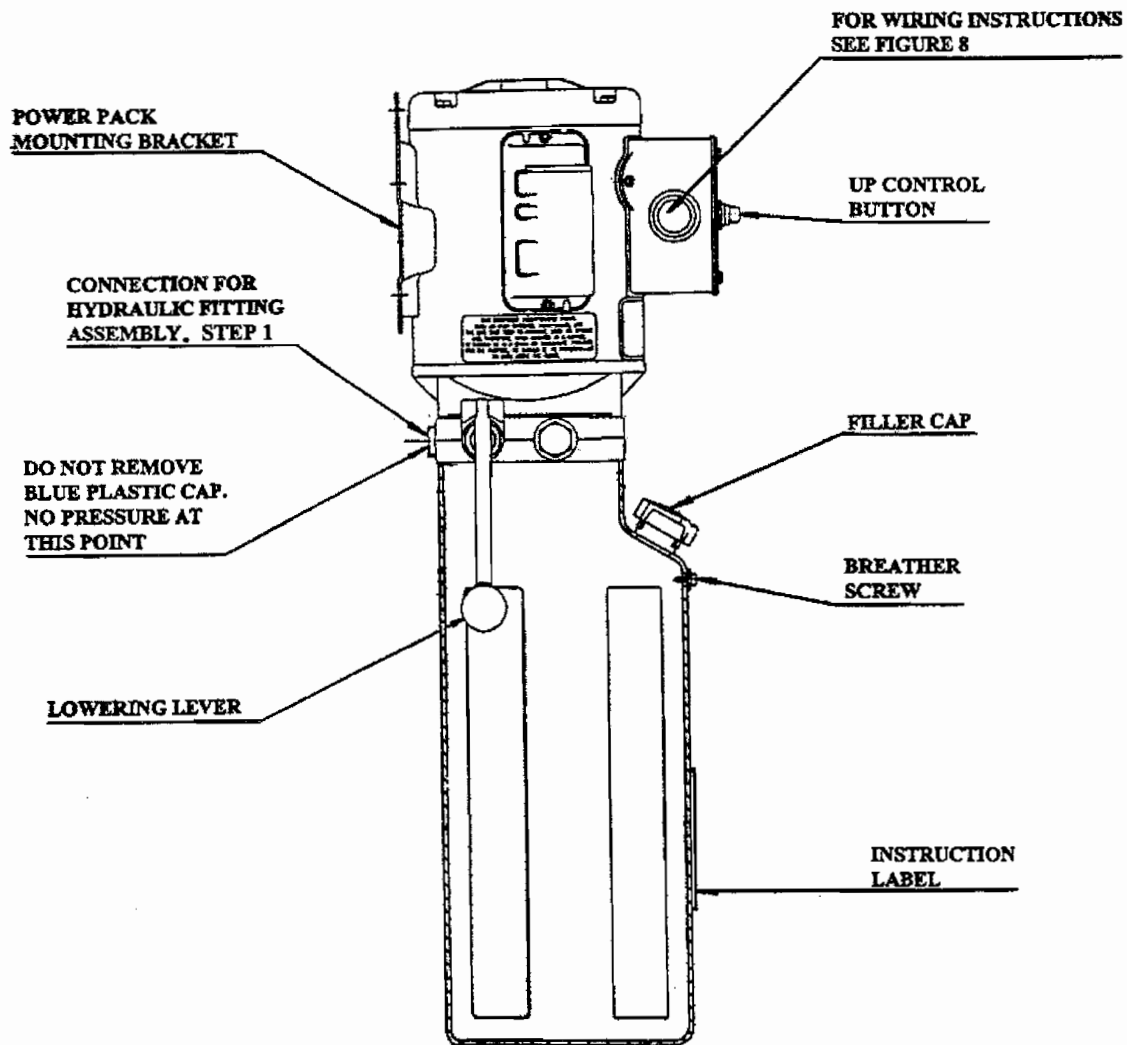

Figure 7 – Powerpack Details
2. Remove plug from item 17. Install item 17 (page 26) to the 90° fitting on the power pack (item 18).
3. Install the valve block to the power side tower using items 23 & 5.
4. On the power side cylinder, remove the cap off item 28 at the bottom rear and install item 27.
5. Attach item 27 to item 53 on valve block.
6. At the bottom of the power side cylinder, remove the 1/4" cap from item 25 and attach it to item 51 on valve block.
7. Attach the other end of item 17 to the 90° fitting (item 18) on the valve block.
8. Remove the two caps on item 39 and place it in the crossmember. Connect the slave side end of this line to a bulkhead fitting (item 1) attached to the hydraulic line (item 6).
9. Connect the power side end to the bulkhead fitting (item 1) attached to the hydraulic line (item 30).
11. Remove filler cap from power pack, and fill reservoir with 3.5 Gal. (13.2 L) of ISO32 hydraulic oil (10 weight hydraulic oil). Remove breather screw when filling and replace when full. Refer to **Figure 7**.